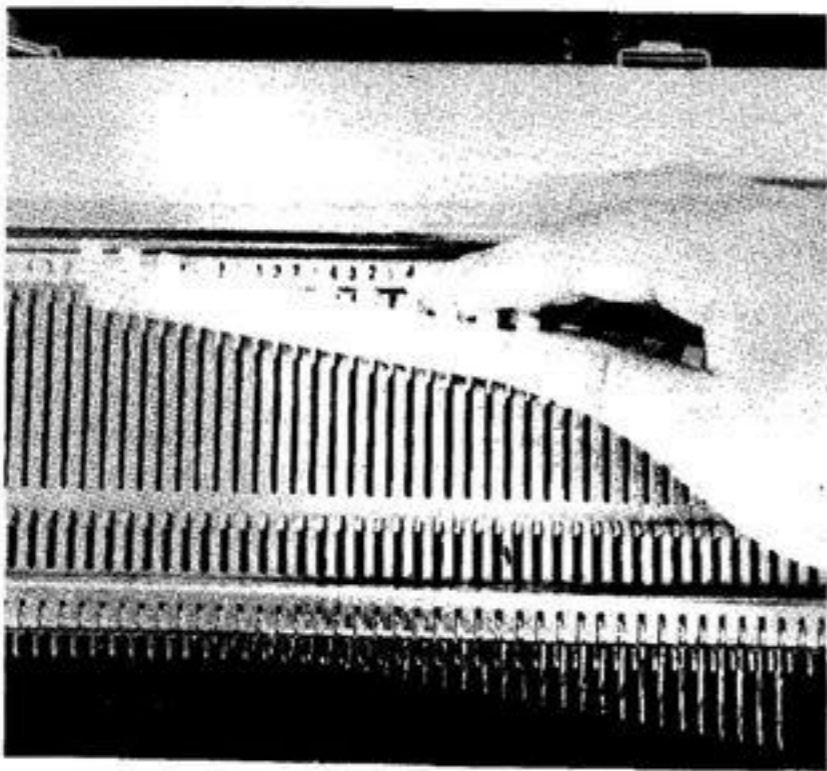
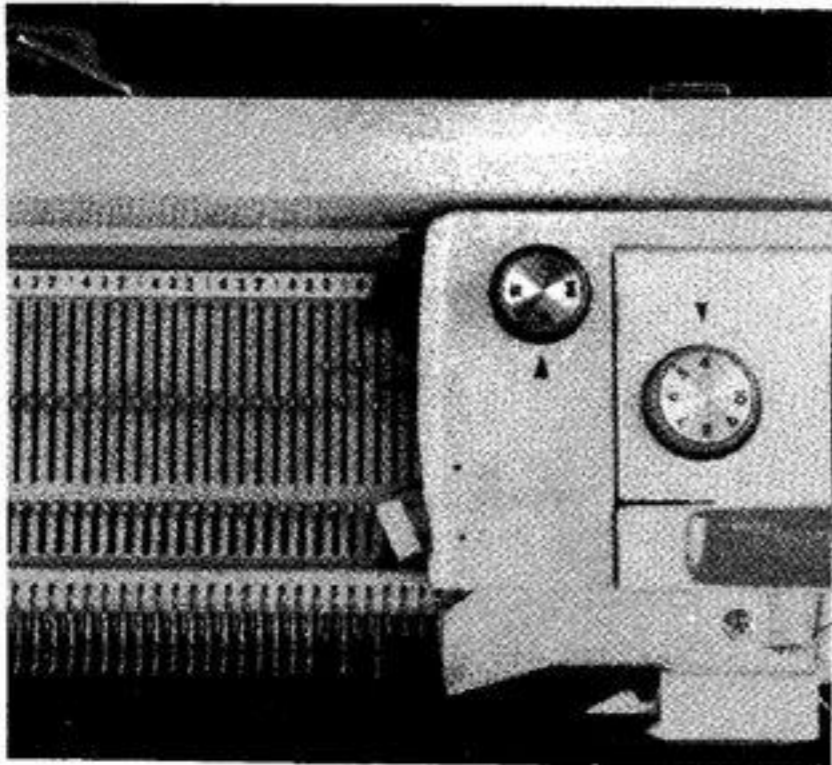

Fig. 25
Fig. 26
- g) Bring forward, using the straight edge of the Needle Selector Plate (see item 14. Fig 4 on page 6), number of needles required as shown in Fig. 25 — say 40 needles, aligning them in Working Position (C) as shown in Fig. 26.
- h) Push back into Position (B) the second and fourth needles from the right. (Fig. 26)
- g) Bring forward, using the straight edge of the Needle Selector Plate (see item 14. Fig. 4 on page 6) number of needles required as shown in Fig. 25 — say 40 needles, aligning them in Working Position (C) as shown in Fig. 26.